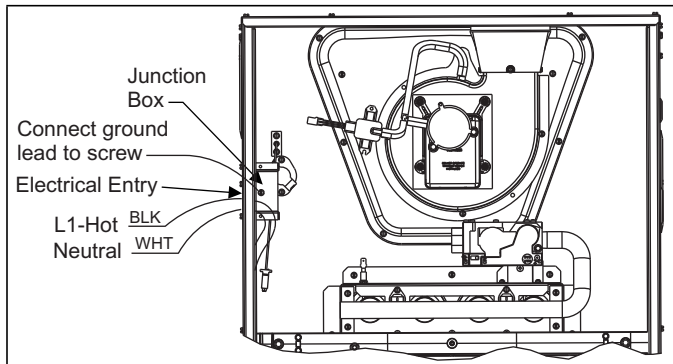

FIGURE 17: Electrical Wiring
2. Remove the screws retaining the wiring box cover. Route the power wiring through the opening in the unit into the junction box with a conduit connector or other proper connection. In the junction box there will be 3 wires, a Black Wire, a White Wire. Connect the power supply as shown on the unit-wiring label on the inside of the blower compartment door or the wiring schematic in this section. The black furnace lead must be connected to the L1 (hot) wire from the power supply. The white furnace screw must be connected to neutral. Connect the power supply ground to the green screw (equipment ground). An alternate wiring method is to use a field provided 2" (5.1 cm) x 4" (10.2 cm) box and cover on the outside of the furnace. Route the furnace leads into the box using a protective bushing where the wires pass through the furnace panel. After making the wiring connections replace the wiring box cover and screws. Refer to Figure 17.
3. The furnace's control system requires correct polarity of the power supply and a proper ground connection. Refer to Figure 17.